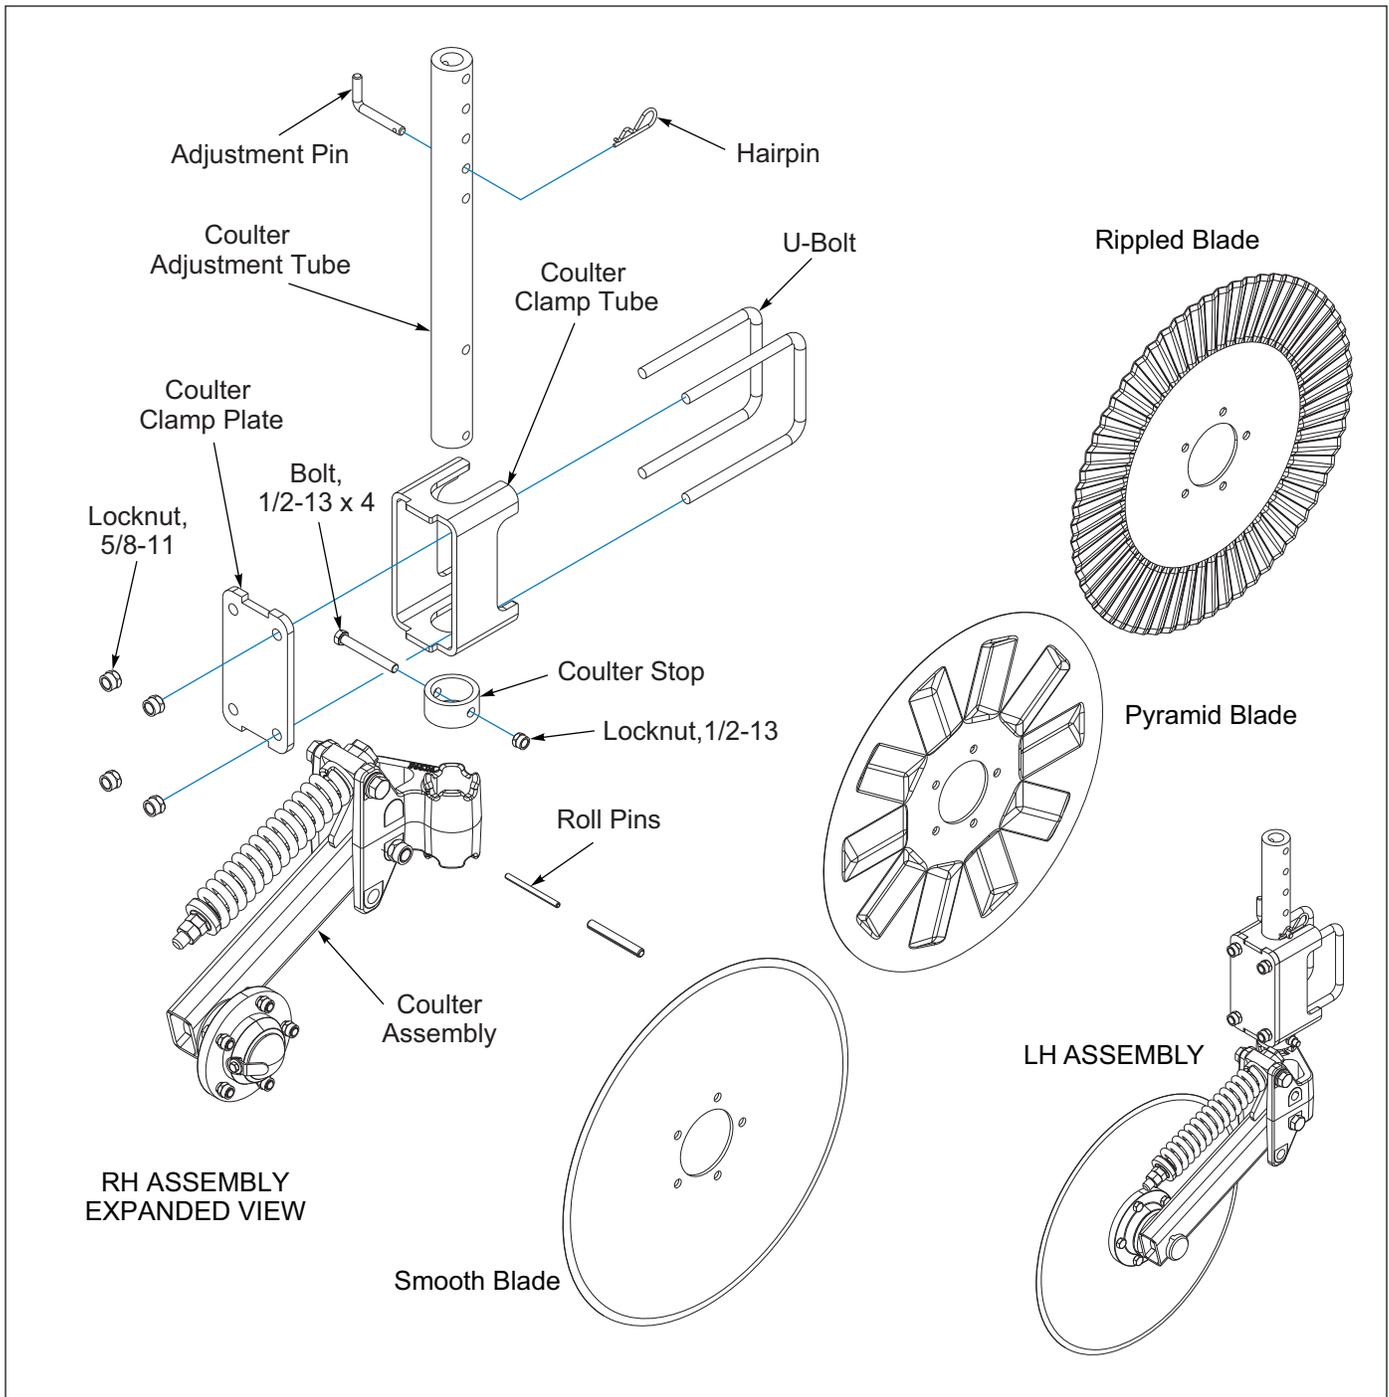

Figure 3-4: Couler Assembly
1. Assemble Couler Adjustment Tube to Couler Assembly using Roll Pins 1/2 x 4 and 5/16 x 4. Assemble the Couler Stop to the Couler Adjustment Tube using 1/2 x 4 Bolt and Locknut. **See Figure 3-4.**